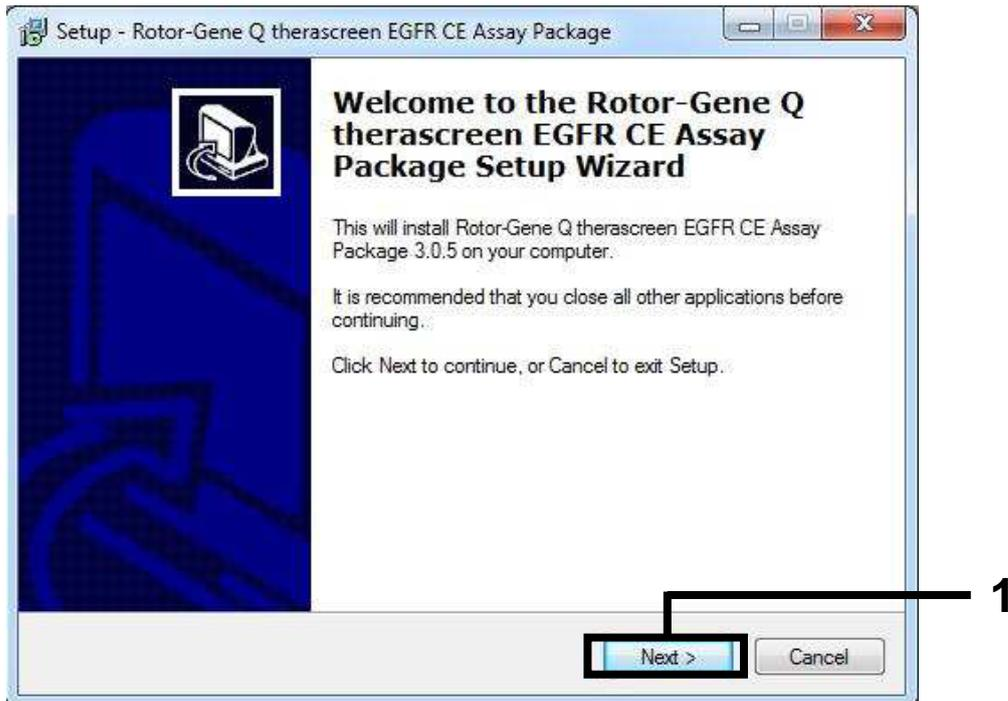

Figure 41. The “Setup Wizard ” dialog box (1 = “Next” button).
4. The *therascreen* EGFR CE Assay Package setup wizard opens. Click “Next” to continue (Figure 41).